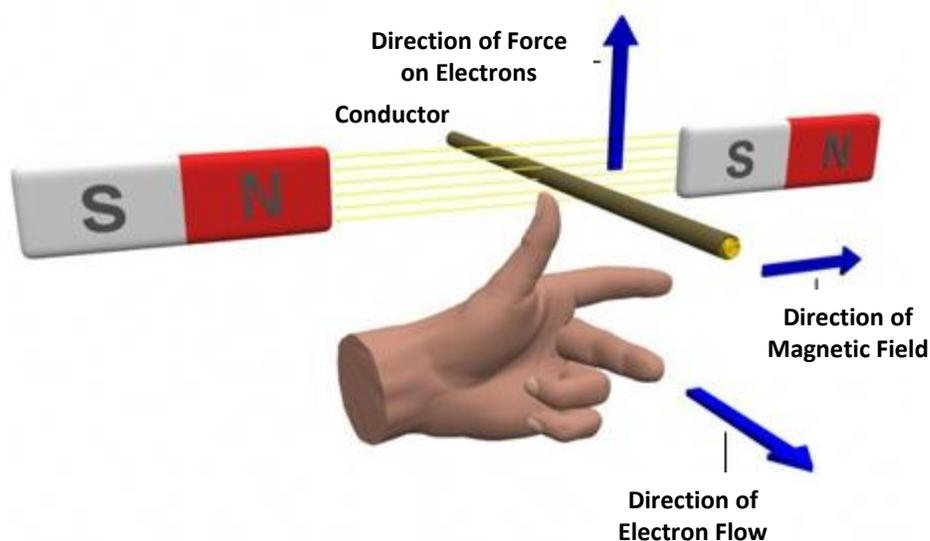

Figure 4.8: Left-Hand Rule for Force
- 4-41 Figure 4.8 shows the second left-hand rule. To use it, you hold your left hand flat, with your thumb pointing sideways. You position your hand so that your fingers point in the direction of the magnetic field and your thumb points in the direction the electrons are moving. The palm of your hand then "pushes" in the same direction as the force the magnetic field exerts on the moving electrons.